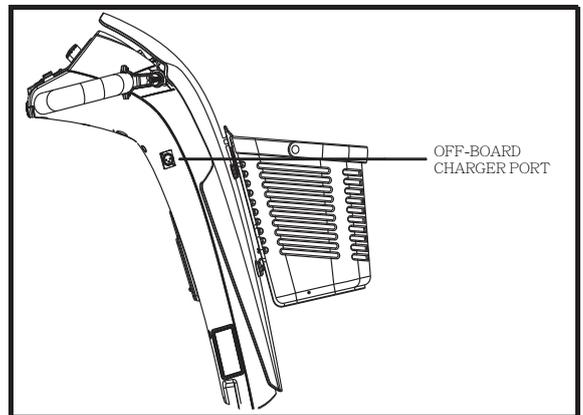

Figure 6. Off-board Charger Port
The off-board charger power lead plugs into this port during battery charging. The off-board charger port will be located on the tiller. See figure 6.
7. When the batteries are fully charged, turn the charger off and unplug the charger power lead from the electrical outlet and then from the off-board charger port. **See figures 6 and 9.**